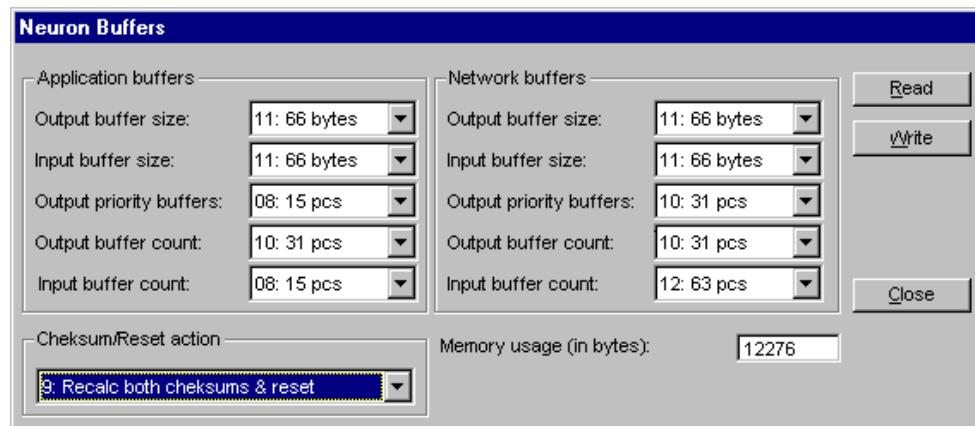
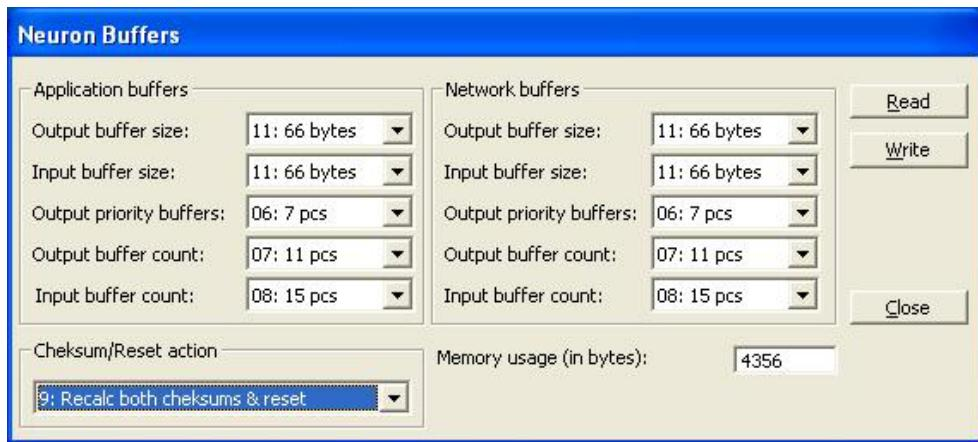

Figure 14: Neuron Buffer parameter values for the PCLTA-20 card
Figure 17: Neuron Buffer parameter values for LMK (LSG)
10. Click **Neuron Buffers** to define the Neuron Buffer parameter values. The values for the different cards are shown in Figure 14 - Figure 17.